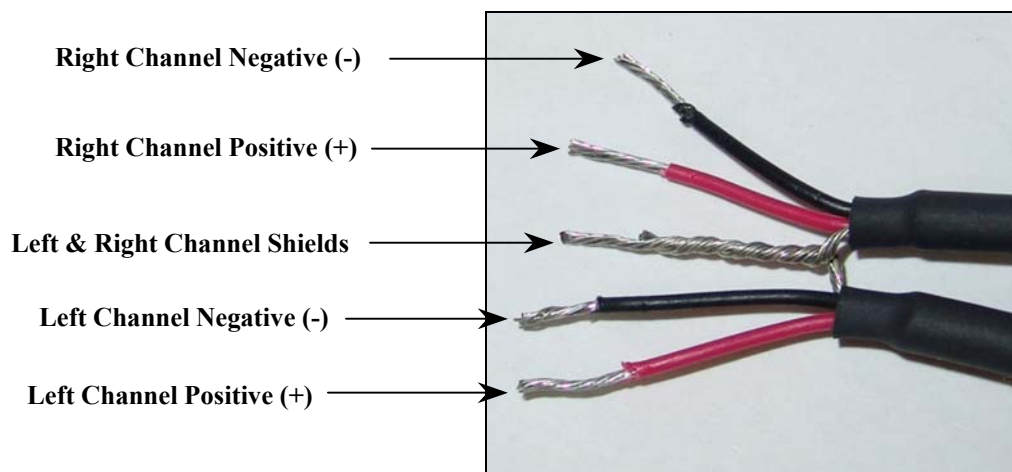

FIGURE 10: Typical Audio Cabling Preparation
- 3) Twist the bare strands of each conductor together to secure the strands. Twist the two shield wires together to form one wire (see Figure 10).